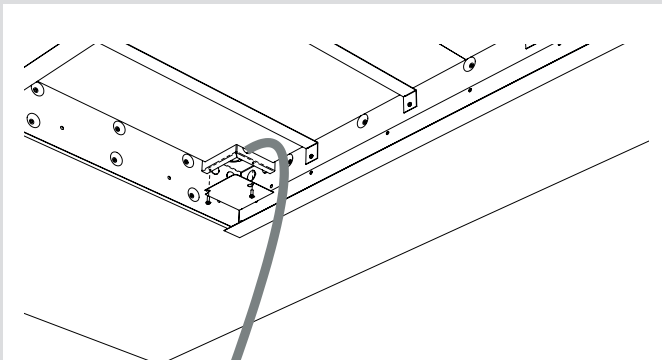

Figure 7
6. Connect the electrical wiring (Fig. 8) and screw the junction box cover back on (Fig. 7).